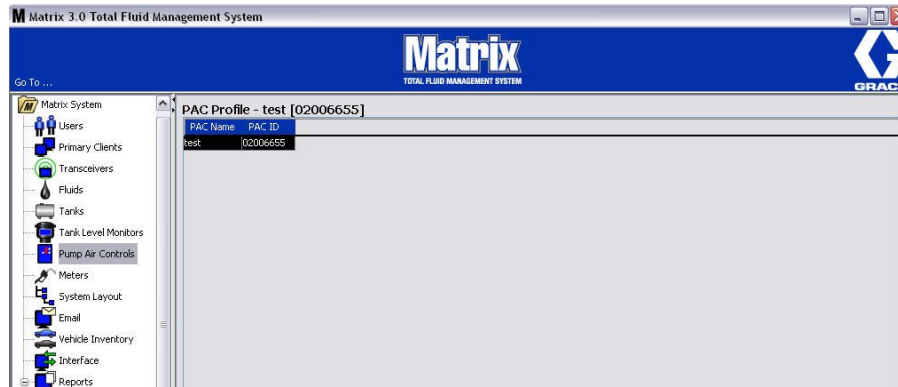

FIG. 132
- The Linked PAC appears on the main screen as shown in FIG. 132.